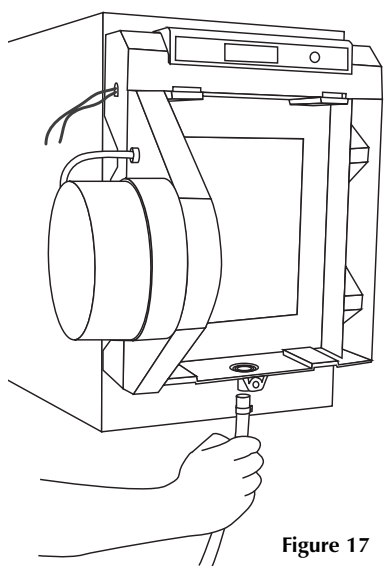

Figure 17
5. YOU MUST RUN A DRAINAGE TUBE FROM THIS UNIT. Select a convenient location for running the 1/2" drainage tube, 15 ft supplied. Before you connect the tubing to the drain fitting on the bottom of the unit, slip the 1/2" hose clamp (supplied) over the tubing (fig 17). Push the tubing over the fitting and secure in place with the hose clamp.
11. Mount the humidistat assembly into the duct cut out made in step 3. Secure in place with four screws provided in the humidistat kit (fig 17).